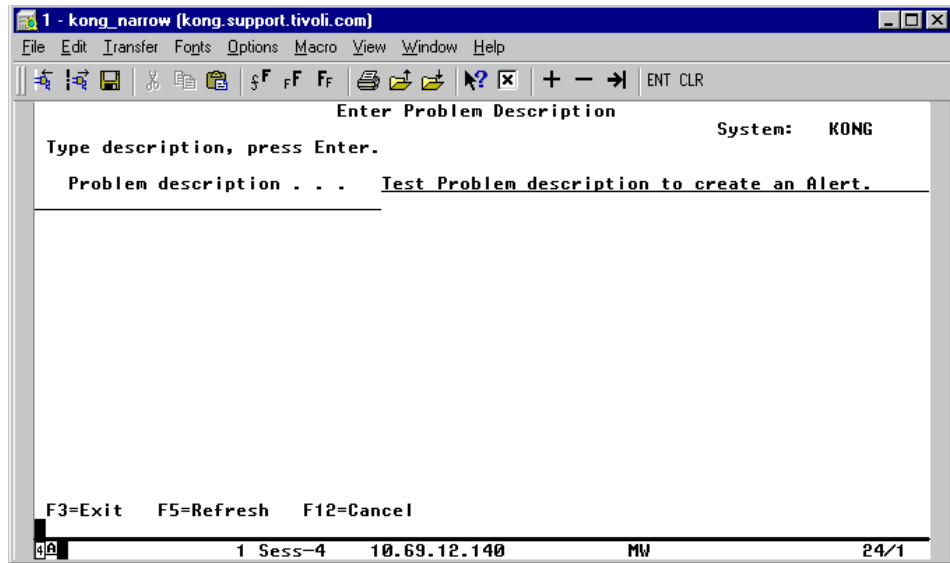

Figure 184. ANZPRB: Enter Problem Description
- e. On this panel, you may enter the type and serial number of your AS/400. If you don't know them, you may enter 0s for these values. If you enter 0s, as we have, you may see the message, *Machine type and Serial number not recognized*, as we show here. If this is the case, you will need to press **Enter** twice to proceed to the Enter Problem Description panel shown in Figure 184 on page 336.